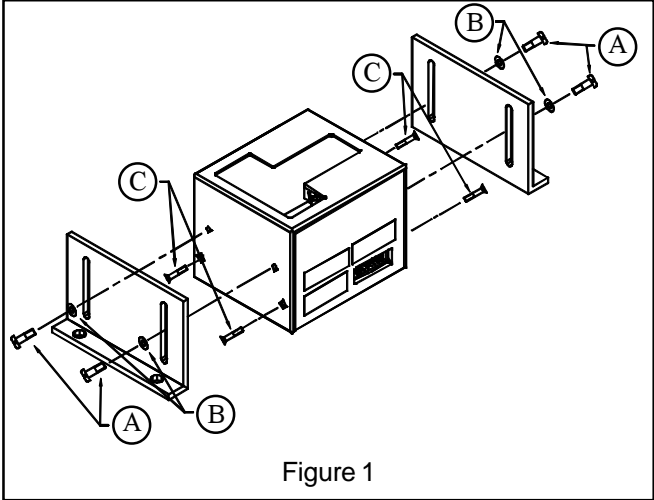

Figure 1
- 2) Remove screws (A), washers (B) and screws (C). See figure 1.